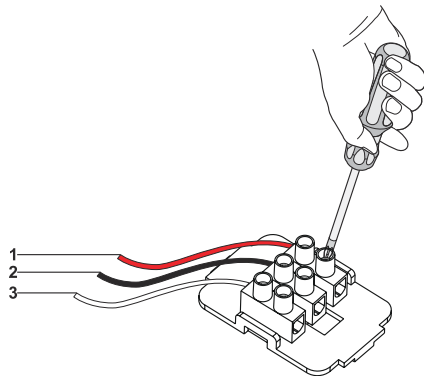

Fig. 25
1. **NC / COM:** When these two connections are used and the hood is switched off, then will the hood give the connected device a constant signal. (Fig. 25).
2. **NO / COM:** When these 2 connections are used and the hood is switched on, then will the hood give the connected device a constant signal. (Fig. 25).